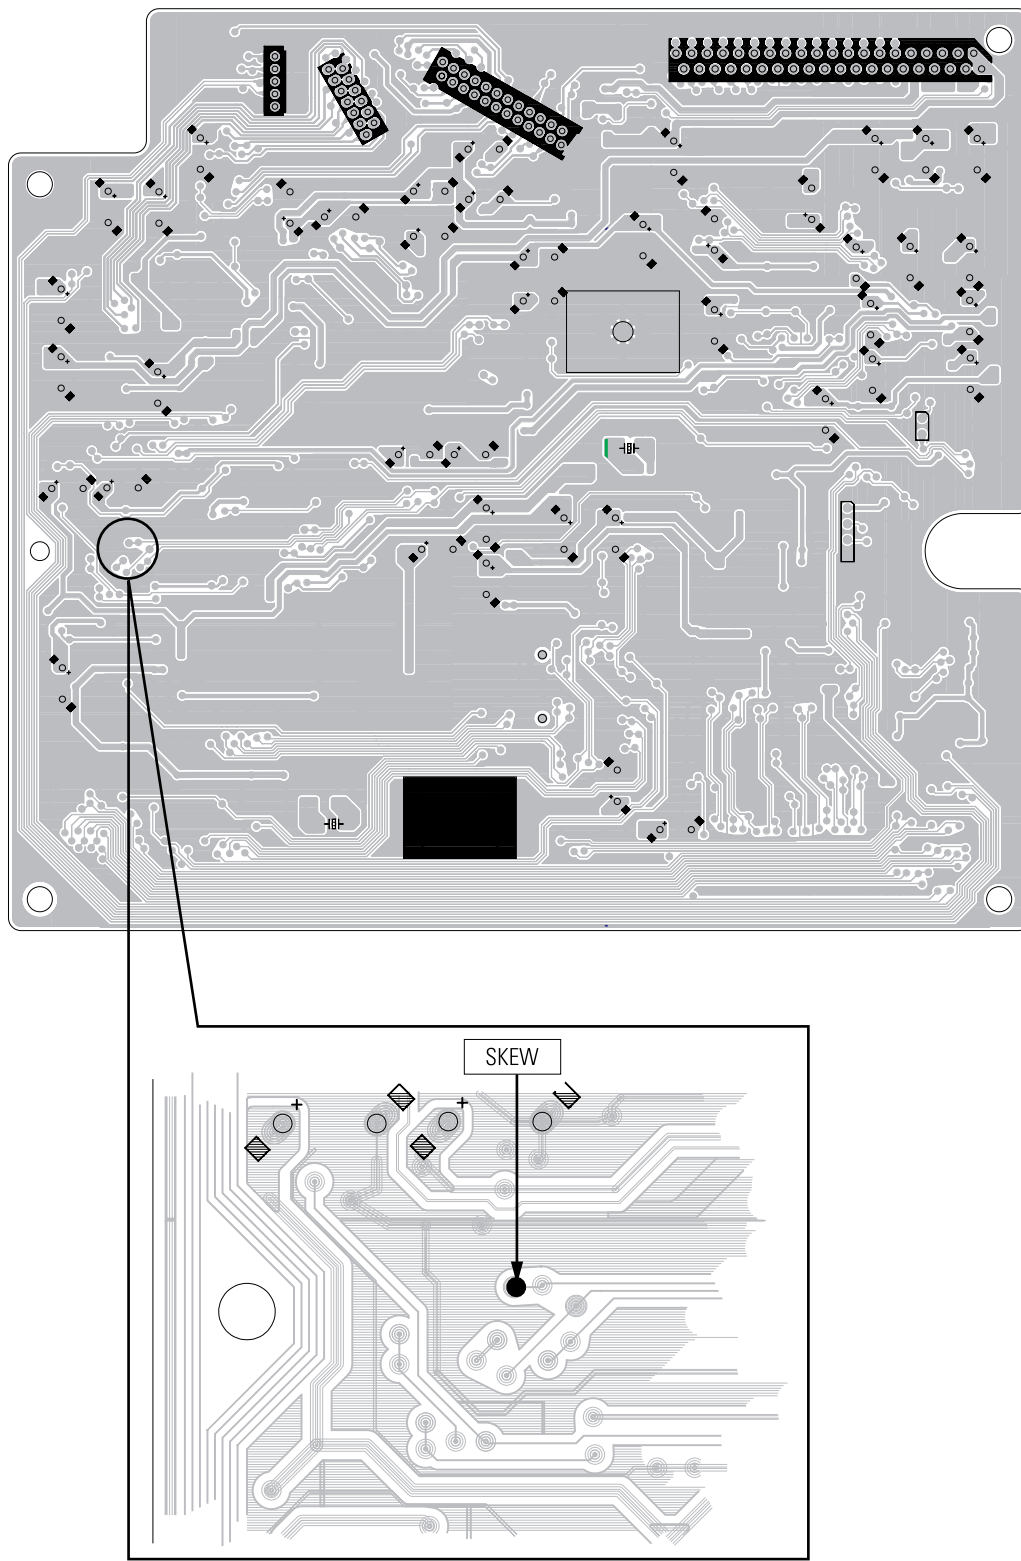

Fig. 6-5 Location of test Point (DVD Main PCB - Bottom Side)
- 1) Connect an Oscilloscope to the "SKEW" Test Point (See Fig. 6-5).